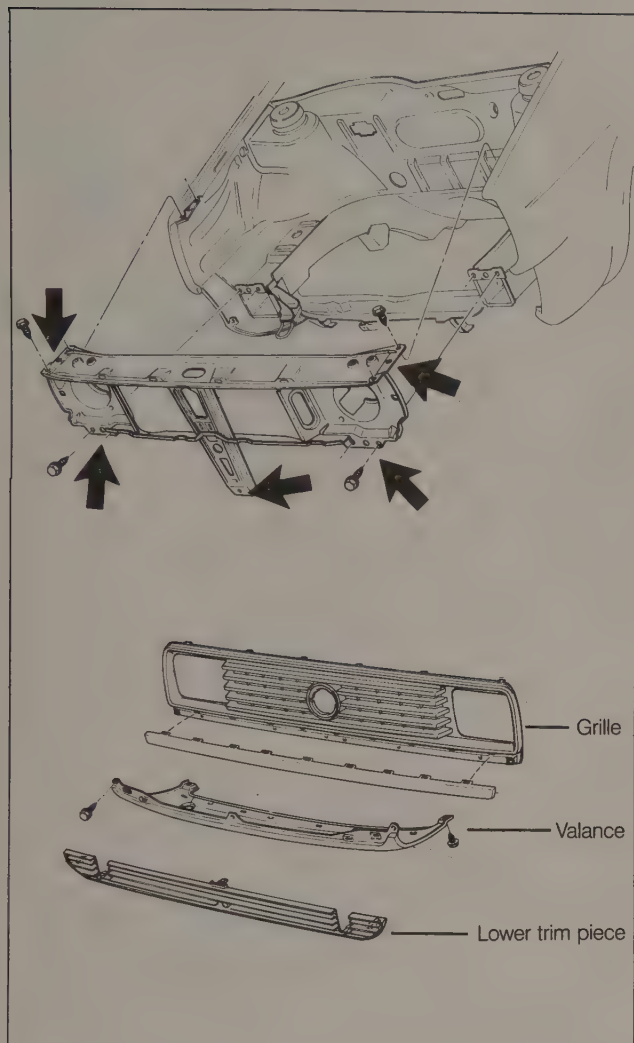

Fig. 5-1. Front apron (radiator support) mounting points (arrows). Lower trim piece and grille snap in place.
6. Remove the lower apron bolt and unclip the lower trim piece. See Fig. 5-1.